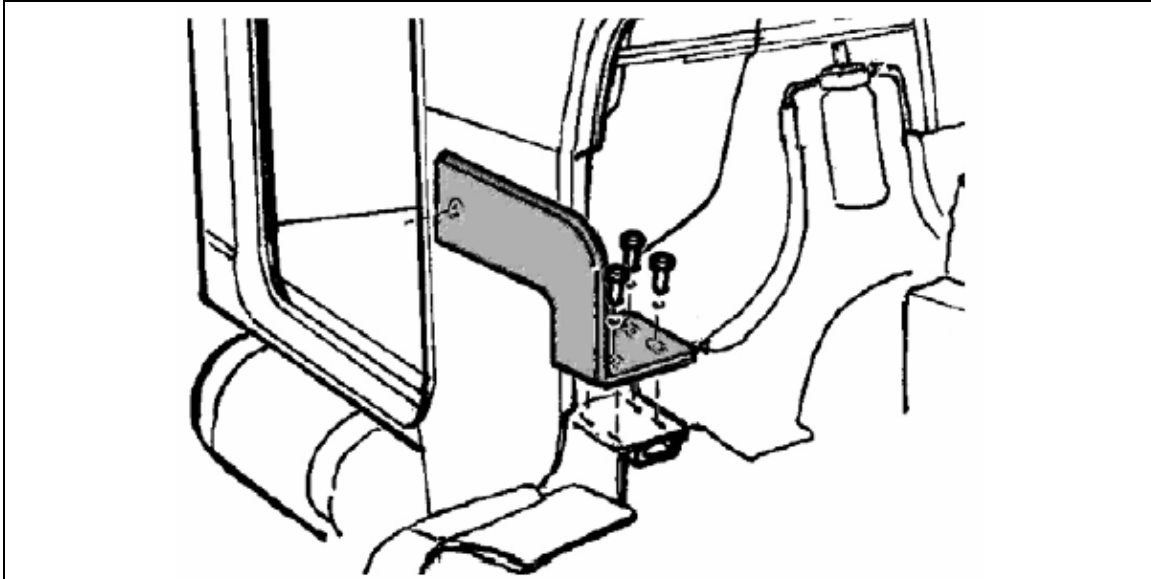

Figure 2-3. Cabin Preparations - Installing Drilling-Pattern #999 and Drilling One 8-mm (5/16") Hole.
- a) Install drilling pattern #999 (see Figure 2-3) on the cowl bumper brackets as shown using the original bumper installation fasteners.